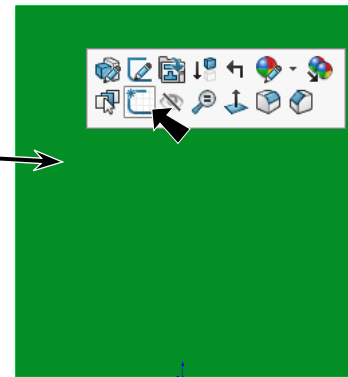

Fig. 25
Step 3. Click **rear face** and click **Sketch**  on the context toolbar, **Fig. 25**.